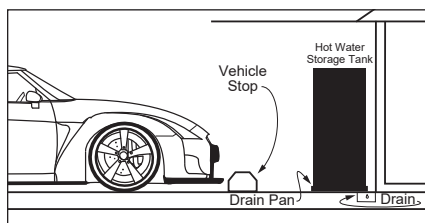

Figure 8 - In a garage, install a vehicle stop to avoid damage to the hot water storage tank.
⚠ WARNING! Even though the hot water storage tank is provided with a thermostatic mixing valve to be installed at the tank, hot water can scald. Install Thermostatic Mixing Valves at each point-of-use to reduce the risk of scalding (see page 4 and Figure 8).
- 5 The location is not prone to physical damage by vehicles, flooding, or other risks (Figure 8).